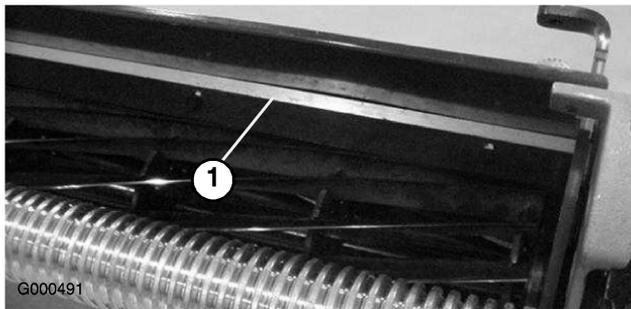

Figure 54
1. Loosen screws securing top bar (Figure 54) to cutting unit.